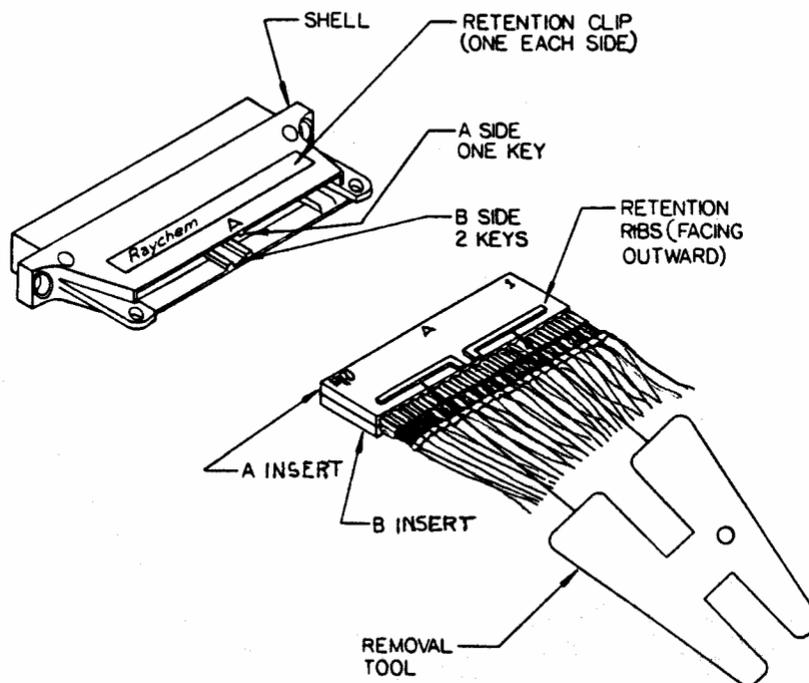

Figure 4. Installing Inserts into Shell
3. Inserts and shells are keyed to assure proper assembly (Figure 4).
2. Orient the **A** insert toward the **A** side of the shell and the **B** insert toward the **B** side of the shell (Figure 4).